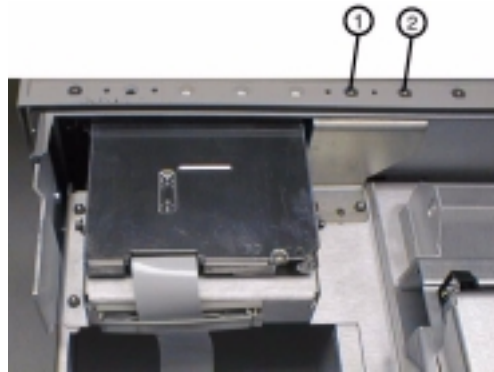

Figure 3-16. Detaching the Z-bracket from the front panel assembly
- 4 Use the T-10 TORX driver to remove the two screws fastening the Z-bracket to the front panel assembly. See ① and ② in Figure 3-16 below.